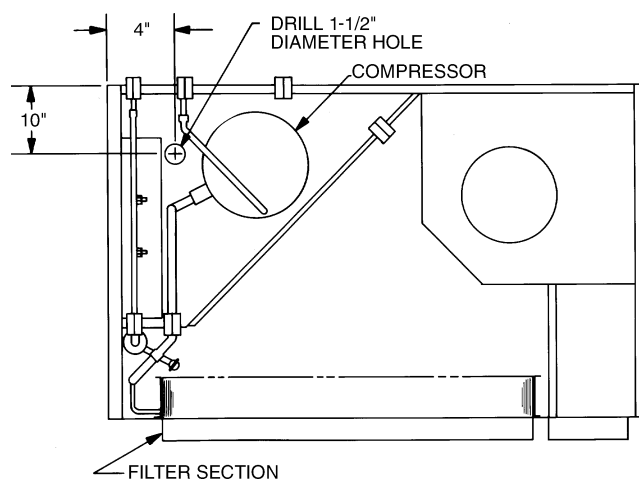

Fig. 1 — Location of Drilled Hole (Top View)
- Before installing unit, drill 1 1/2-in. diameter hole in top cover of evaporator to allow routing of 1/4-in. copper tubing, taking care not to drill into any other part of unit. See Fig. 1.